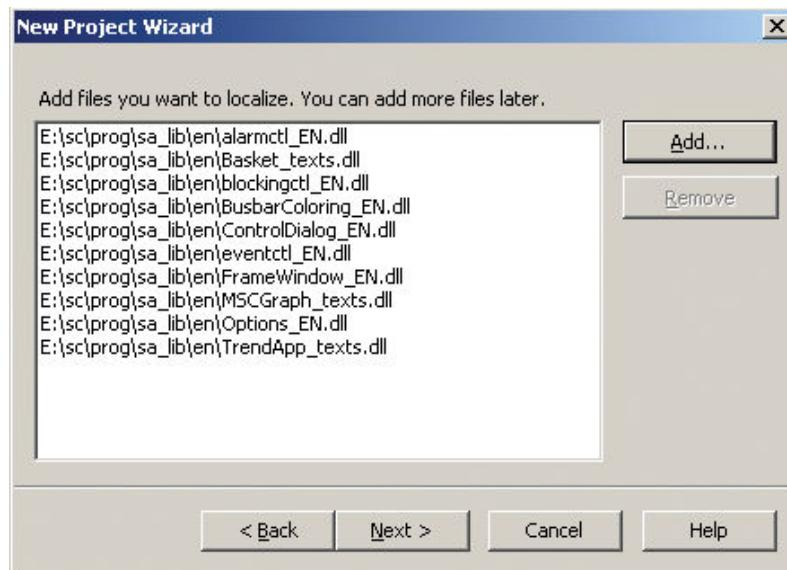

Figure 231: Example of list of dll files to be translated
2. Click **Next** to open the list of dll files, see Figure 231.